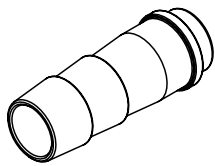

Fig. 3
- Hose olive NW 8 (2 pieces) see **Fig. 3**
- Hose olive NW 12 (2 pieces) see **Fig. 3**